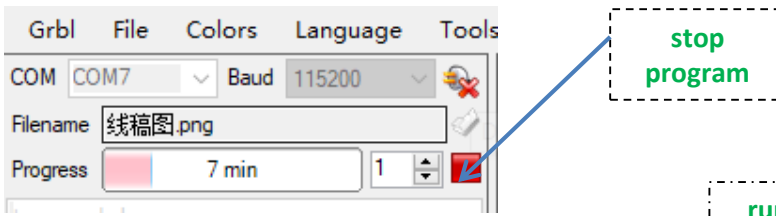

Figure 11.2
11.2 Stop: If you want to stop halfway, click the square red button of "Stop Program" in GRBL software (figure 11.2) to end the program.